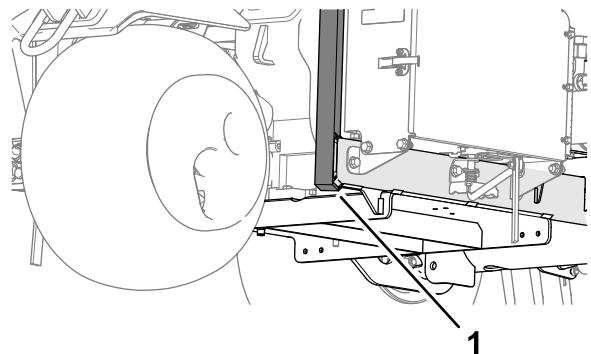

Figure 138
3. Position the jack securely under the front wheel-support arm (Figure 138).